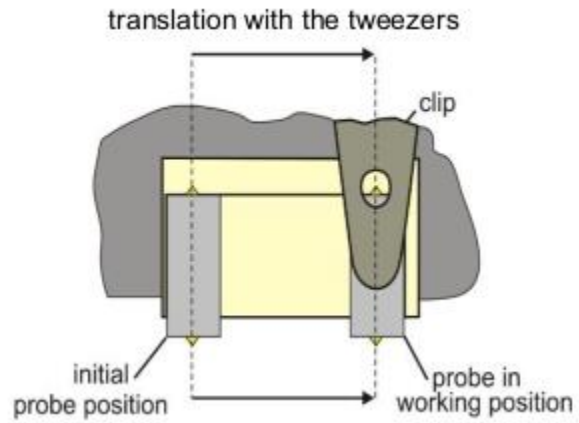

Figure 6: Moving the probe into position
- Place a probe on the left side of the shelf and slide under the clip, make sure the back and side of the probe are squarely up against the right edge of the shelf (Figure 6).